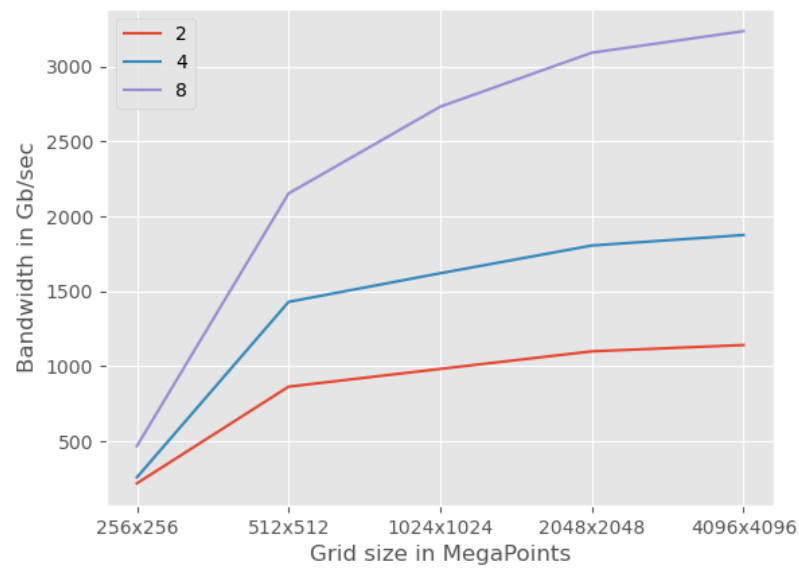

Figure 5: Bandwidth vs grid size for block algorithm at orders 2, 4 and 8
Figure 5 illustrates how bandwidth changes with grid size for our block algorithm as we increase grid size for orders 2, 4 and 8. As expected, bandwidth improves as we increase order of our stencil. This is because a higher order stencil will be making more coalesced requests to global memory.
- **Difference from varying order.** As you increase stencil order, you improve the memory request pattern of each warp to be more coalesced. This hides latency and improves bandwidth (figure 5).